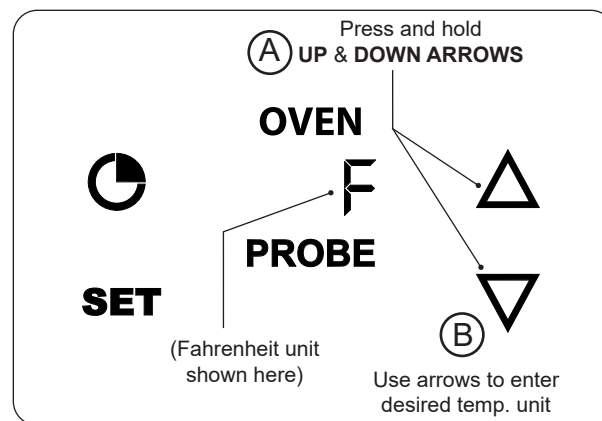

Fig. 41-4 Change temp. unit
1. Press and hold the **UP** and **DOWN** arrows until °F or °C is displayed (Fig. 41-4, A).
2. Press the **UP** or **DOWN** arrow to select the desired temp unit (Fig. 41-4, B).